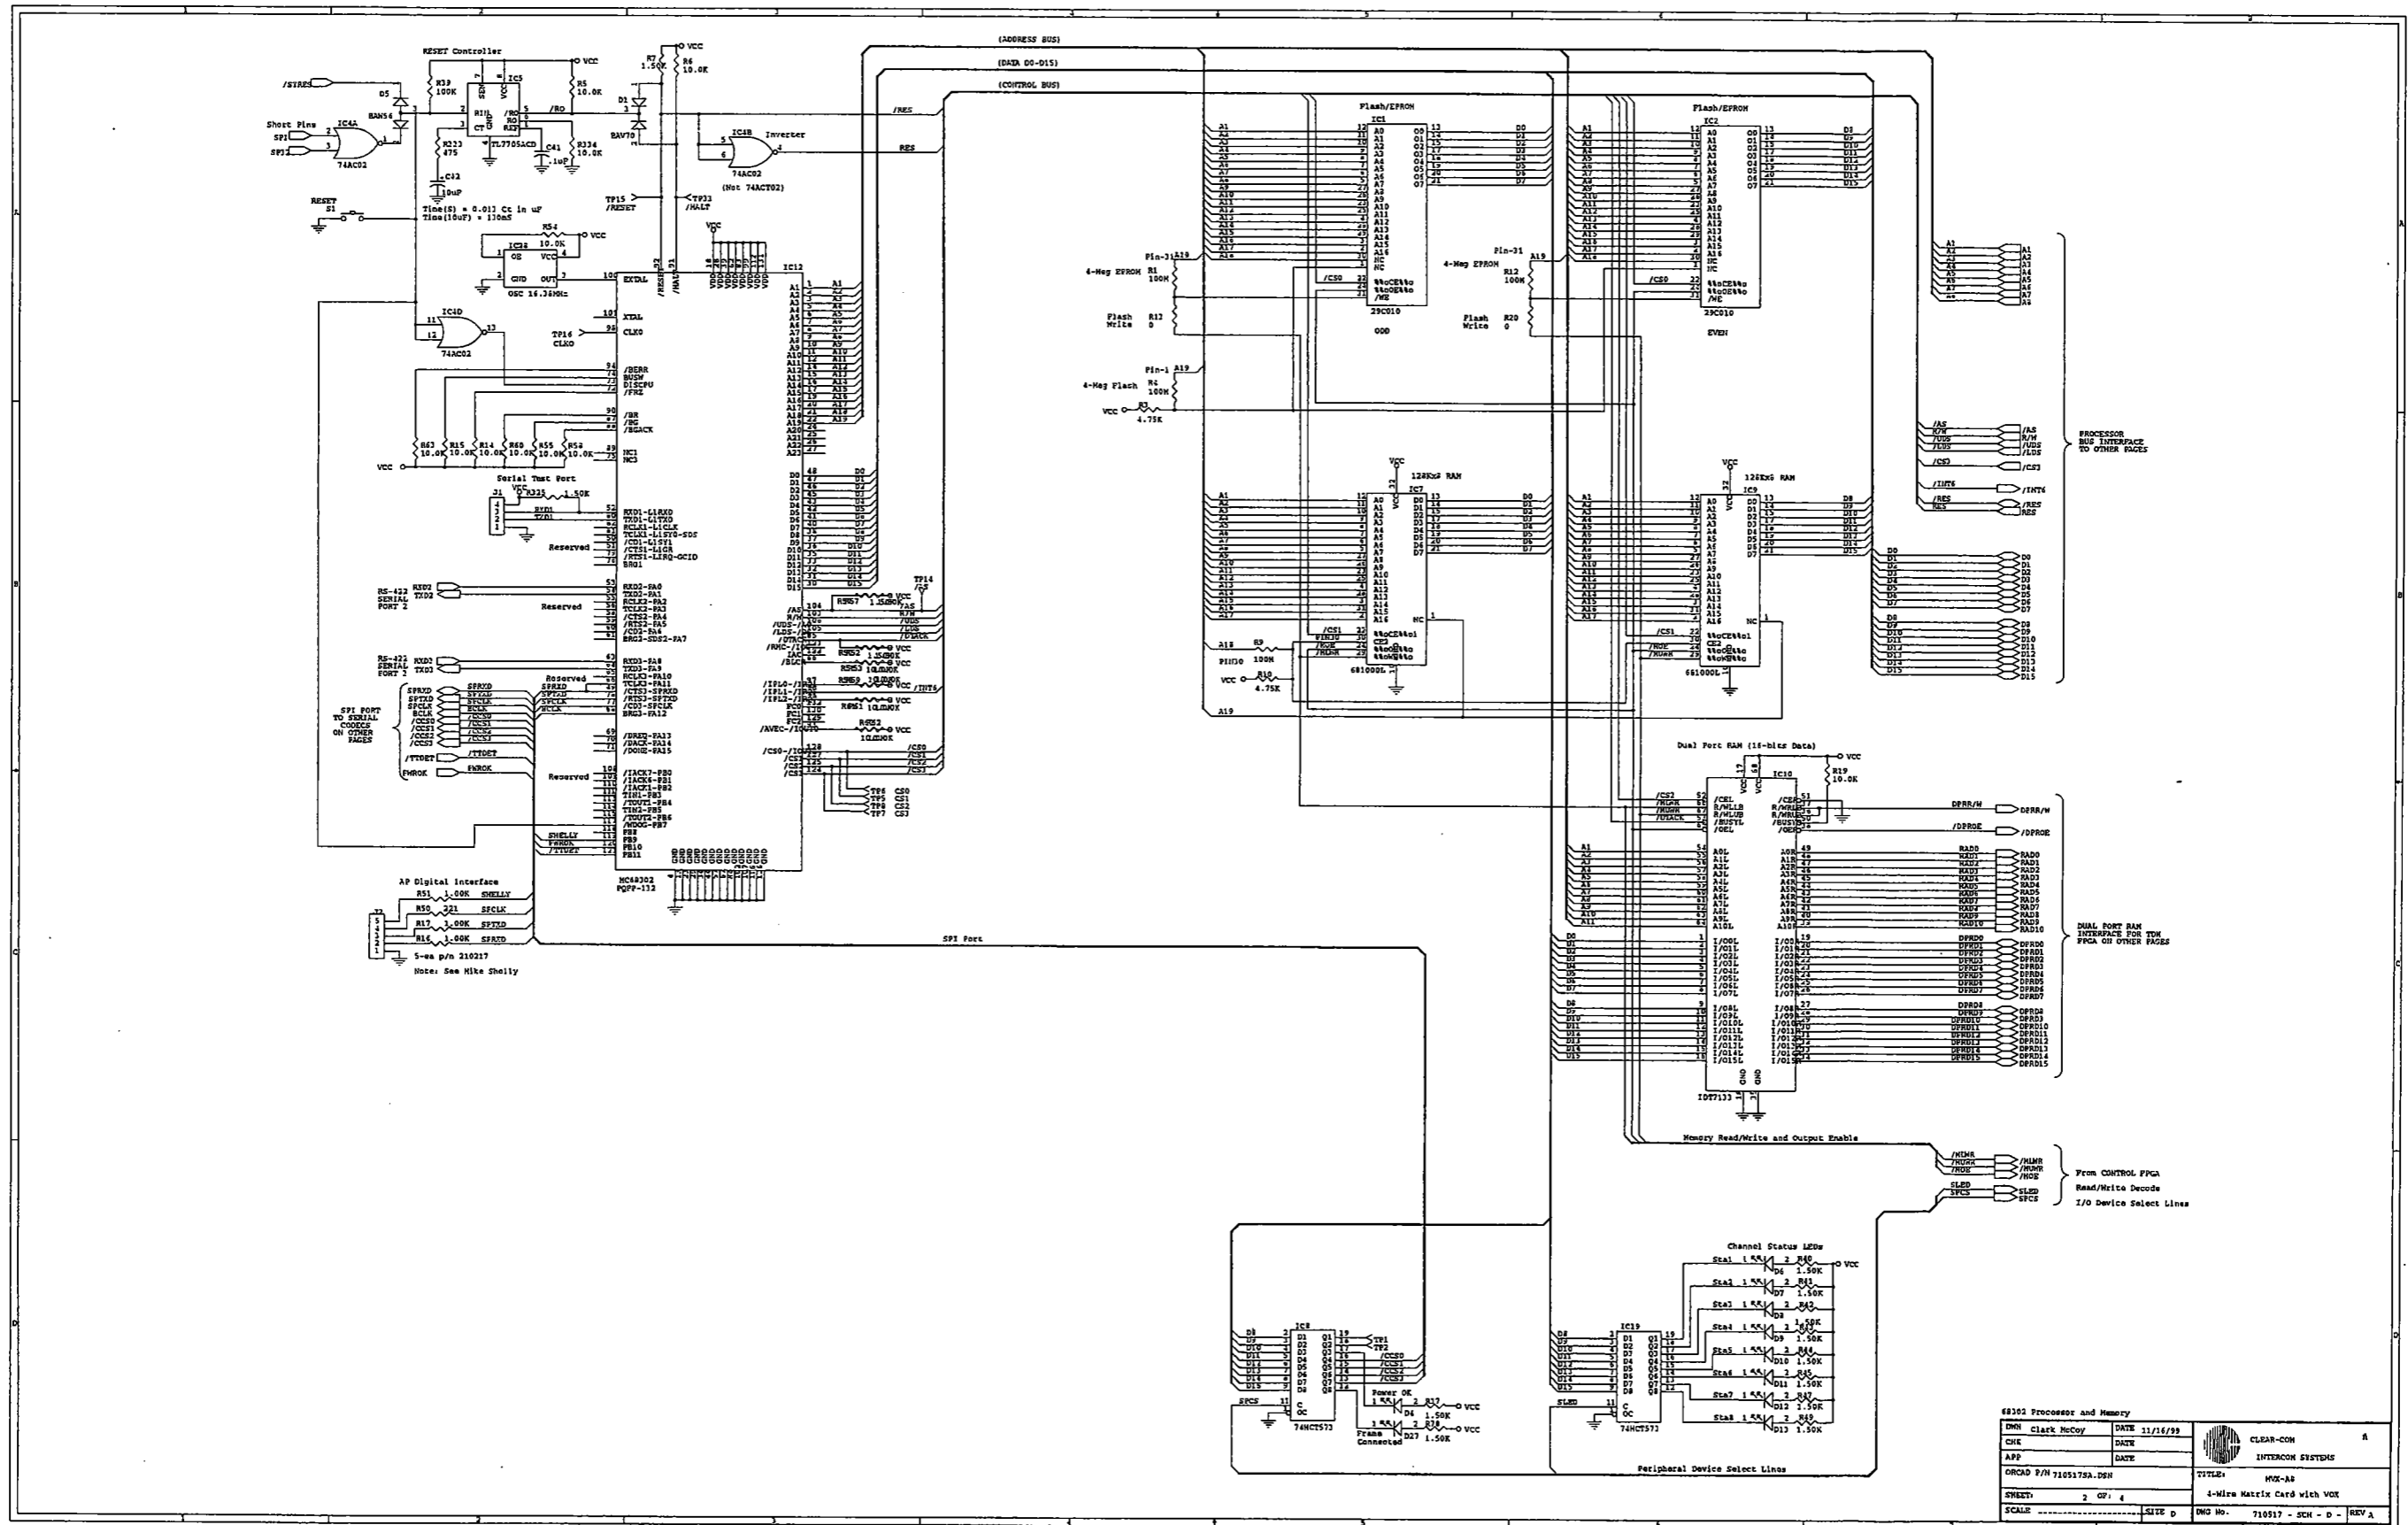

FIGURE M1-4: Schematic—MVX-A8/L8 PCB Sheet 2, Rev. A
- Sheet 2 (Figure M1-4 on page M1-9) contains the microprocessor circuitry.